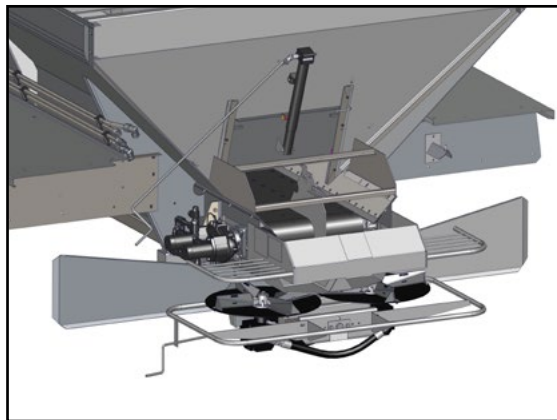

Figure 11
13. Figure 11 - Ensure all guards and shields are securely in place.